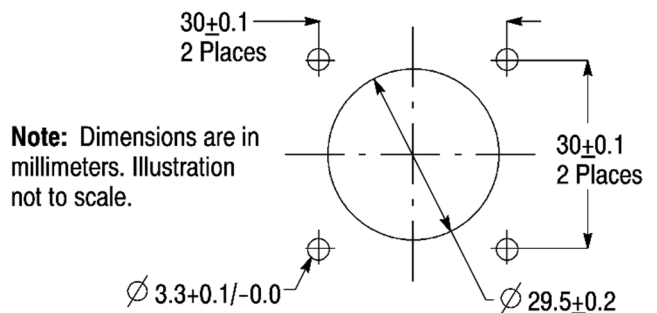

Figure 16
1. Cut the panel using the dimensions provided in Figure 16.